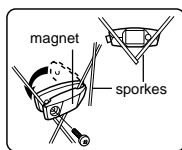

Fig.1
- The spokes must run correctly through the inside the magnet as in fig.1.